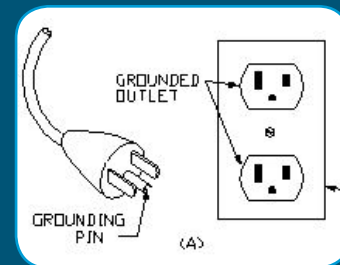
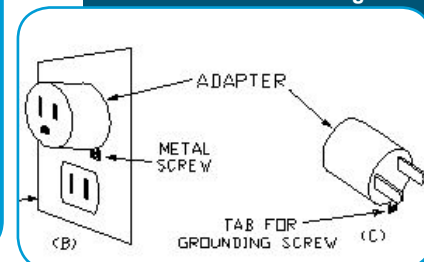

Figure A1
Figure A2
- This product is for use on a nominal 120-V circuit, and has a grounding plug that looks like the plug illustrated in Figure A1. A temporary adapter that looks like the adapter illustrated in Figure A2 may be used to connect this plug to a 2-pole receptacle as shown in Figure A2 if a properly grounded outlet is not available. The temporary adapter should be used only until a properly grounded outlet (Figure A1) can be installed by a qualified electrician. The green colored rigid ear, lug, or the like extending from the adapter must be connected to a permanent ground such as a properly grounded outlet box cover. Whenever the adapter is used, it must be held in place by a metal screw.